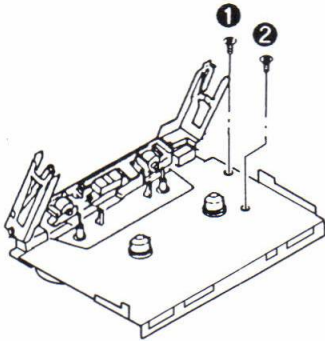

Fig. 1
2. Remove the 2 screws( ❶, ❷).(Refer to Fig. 1.)